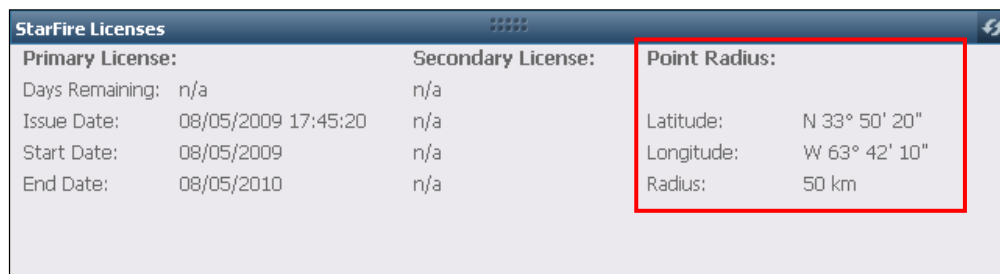

Figure 114: StarFire Licenses – Point Radius
- ✓ **Point Radius:** Allows the use of StarFire if the user is outside the boundary lines of a Land Only StarFire license, but on a land mass; i.e., an island (see Figure 114). Refer to the Point Radius section in this chapter for more information.